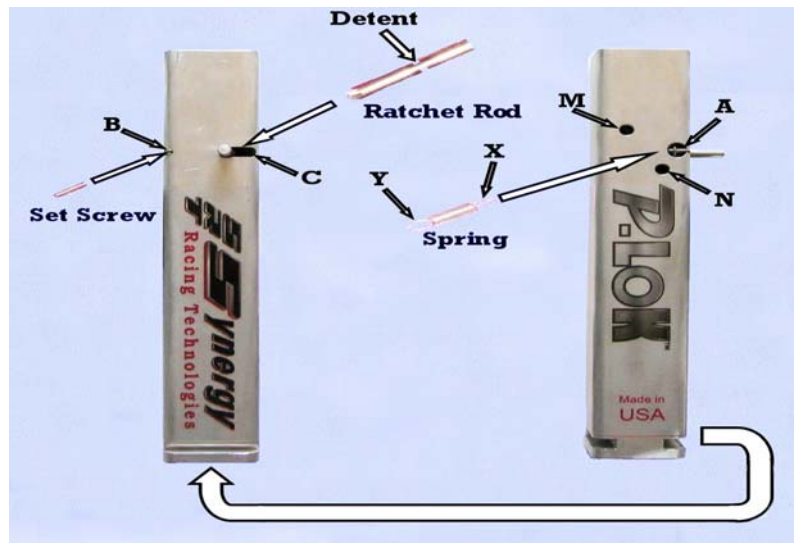

Figure 2: Two-Sided view of **P-LOK™** Bar
A. **P-LOK™** Bars Assembly (see figure 2):
Repeat on the left side with the left **P-LOK™** Bar (see figure 2 and figure 11).